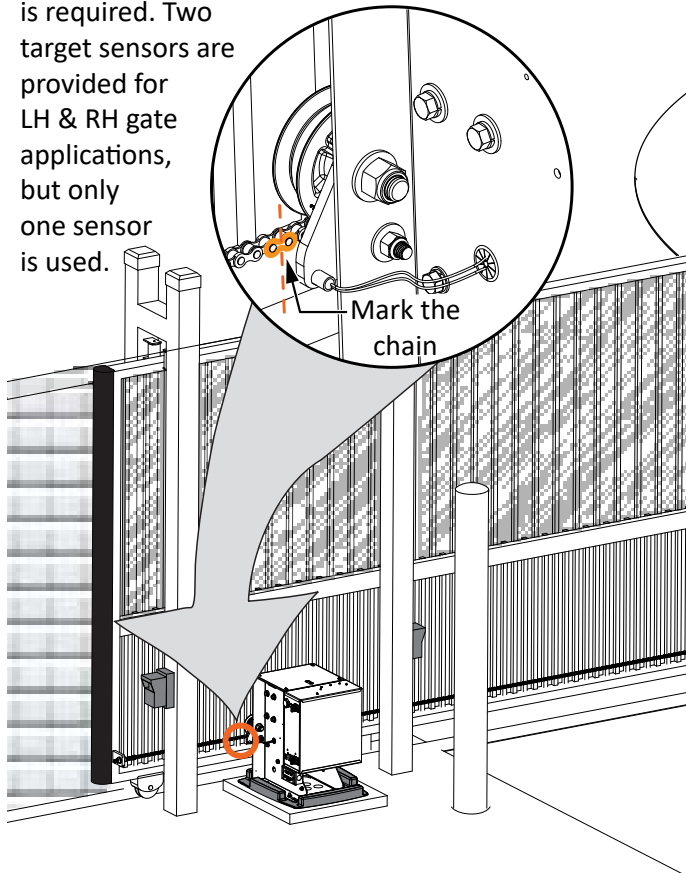

Figure 19. Marking Chain Link for Target Sensor
5. Fasten the target magnet to the chain link as shown in Figure 19. Make sure the large white centerpiece is facing toward the operator. Insert the screw and tighten it securely.
If "ALERT 15 - NO TARGET" appears on the display after the target magnet has been installed and a full gate cycle completed (steps 6 & 7), it means that the target magnet has not been detected by the operator. Check chain alignment and make sure the target magnet is positioned properly and passes across the face of the sensor. See Figure 19. Repeat steps 6 and 7.